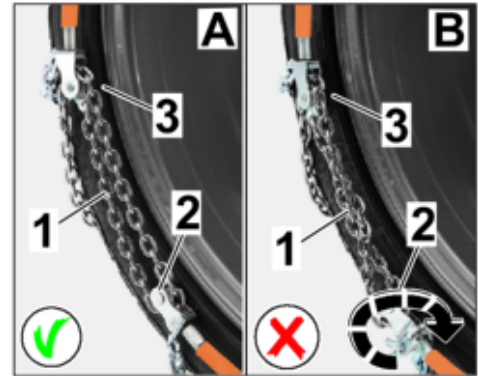

Figure 8
2.2.2 Check that the tensioning chain is running parallel at the tensioning point and deflection roller (end of spring steel clip on inside of wheel) ⇒ *Figure 8 -A-* and is **NOT** twisted ⇒ *Figure 8 -B-*.
Turn deflection roller for spring steel clip if necessary (⇒ *Figure 8 -Arrow-*).